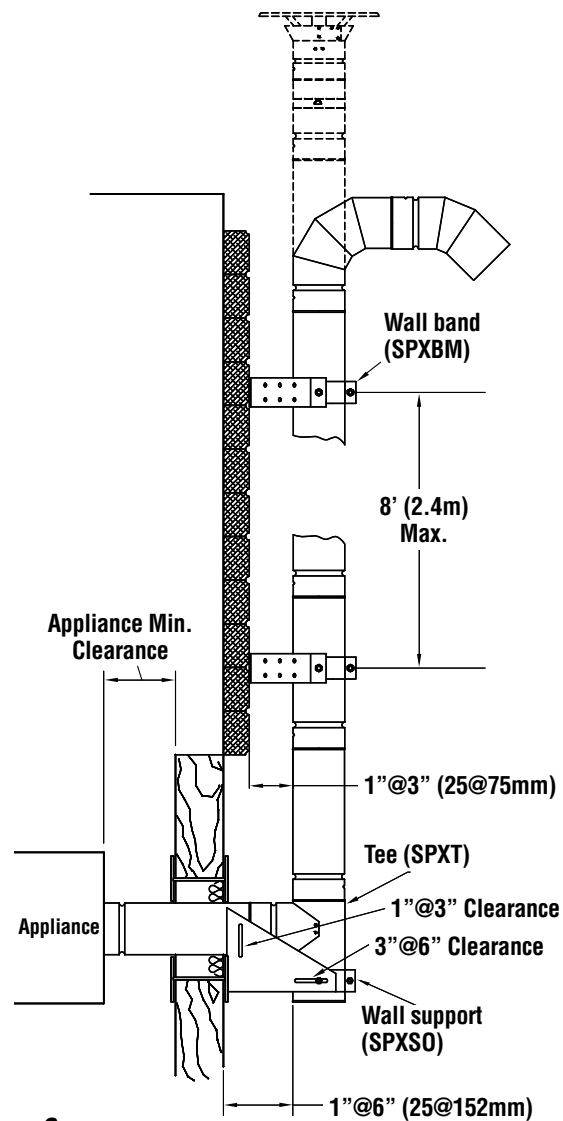

Figure 9
4. Seal the joint between the wall thimble and the outside wall with silicone caulking (see **figure 9**).
7. Attach a tee support below the tee (see **figure 9**). Every 8 ft (2,4m) min. attach a wall band to the pipe and fasten the band legs to the wall using 2-1/2" spiral nails or #8 x 1-1/2" screws. **Note: The wall support is designed to be adjustable in two steps from 1" to 3" and 3" to 6" to accommodate thick siding material. Change the orientation of the supports plates to change clearance step. Keep the clearance to the minimum possible because the wall band is adjustable from 1" to 3".**